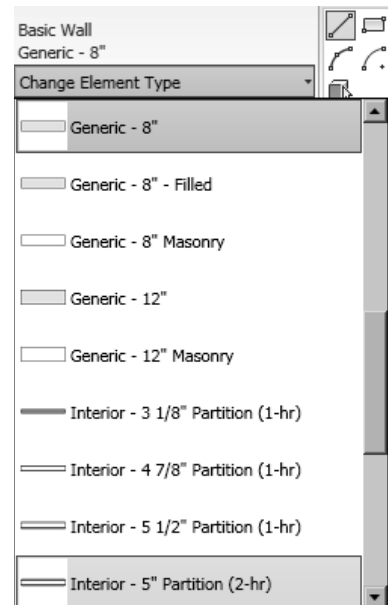

Figure 3-51 Selecting the **Basic Wall : Interior-5" Partition (2-hr)** wall type
- b. Invoke the **Wall** tool and select the **Interior - 5" Partition (2-hr)**, refer to Figure 3-51.
1. On invoking the **Wall** tool, the **Place Wall** tab is displayed. From the **Element** panel in this tab, select **Interior - 5" Partition (2-hr)** from the **Change Element Type** drop-down list, as shown in Figure 3-51.